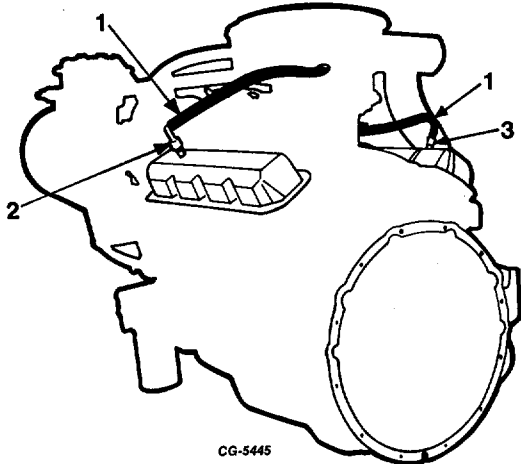

Fig. 153 Flame Arrestor and Crankcase Ventilator Valve Installation
51. Install flame arrestor and hose to left cylinder head cover, Figure 153. Install opposite end of hose to air cleaner after its installation.
52. Install crankcase ventilator valve in right cylinder head cover and connect hose to valve and tube fitting in carburetor, Figure 153.